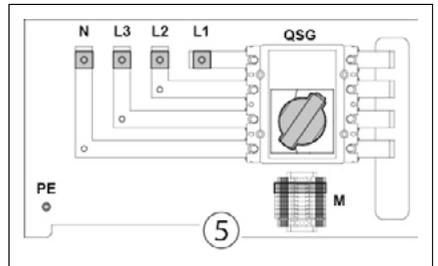

Fig. 8.7 - AC bar plate
10. Set the AC busbar plate main switch to OFF (QSG, Fig. 8.7).
11. Connect the earth cable (PE, Fig. 8.7)
12. Connect the 4x 3ph + N cables to the AC busbars respecting the 3 phase sequence (L1, L2, L3, N, Fig. 8.7).
13. Connect the Meter A+/B- cable (M, Fig. 8.7).